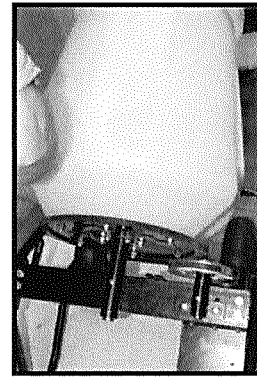

Fig.32: Check alignment of mixer drum gear to drive gear.
3. Verify that the drum gear and drive gear are aligned as shown (Fig.32). Adjust as per "Adjusting belt tension and placement" section detailed above if needed.